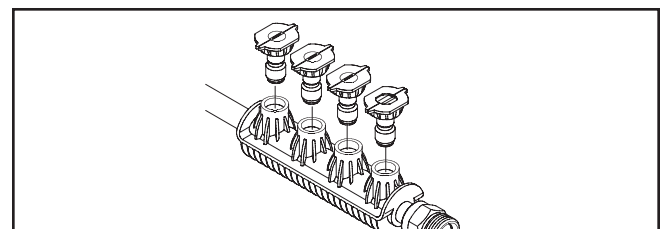

Figure 15 — Install Spray Tips in Holder
6. If equipped, place quick connect spray tips in holder attached to nozzle extension (see Figure 15).